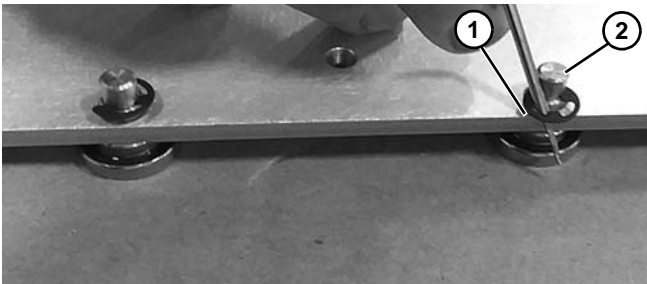
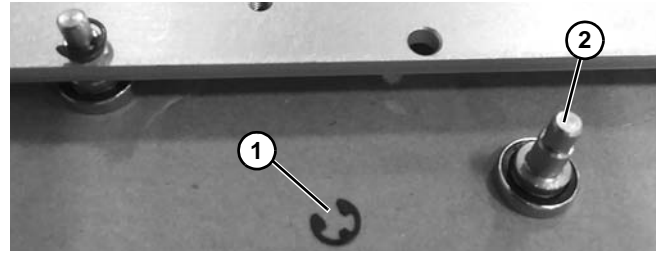

Figure 75
Figure 76
3. Remove retaining ring (**Figure 75 and Figure 76 Item 1**) and bearing (**Figure 75 and Figure 76 Item 2**).